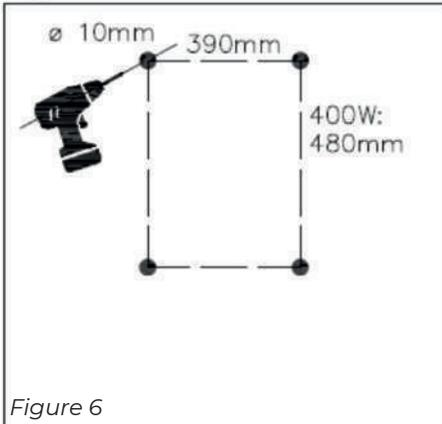

Figure 6
distance between the holes (Figure 6).
5. Drill two bottom holes for the wall plugs with 390 mm horizontal distance between the holes (Figure 6). The vertical distance between the bottom and top holes is approximately 480mm